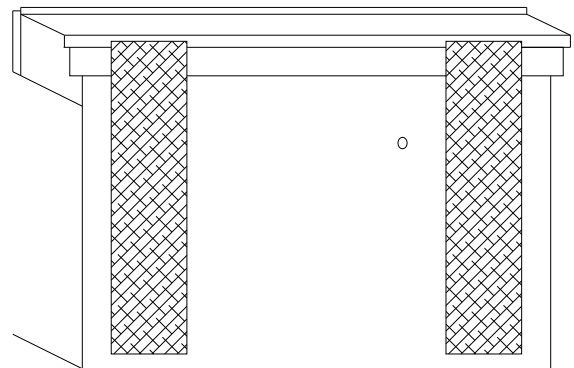

FIGURE 7
(A) Remove the wooden blocks from the bottom of the stove. A drill may be used to remove the screws. (FIGURE 7)